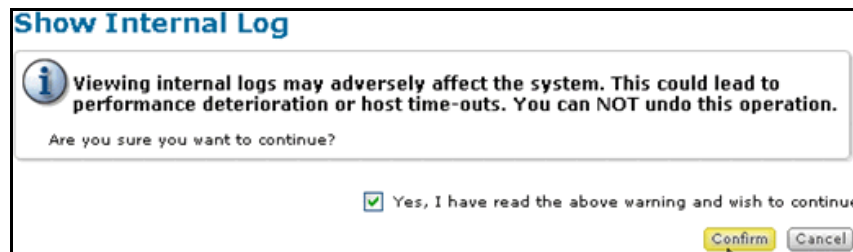

Figure 4-4: Show Internal Log Confirmation
5. Click **Show Internal Log**. The Show Internal Log confirmation screen appears as shown in Figure 4-4.